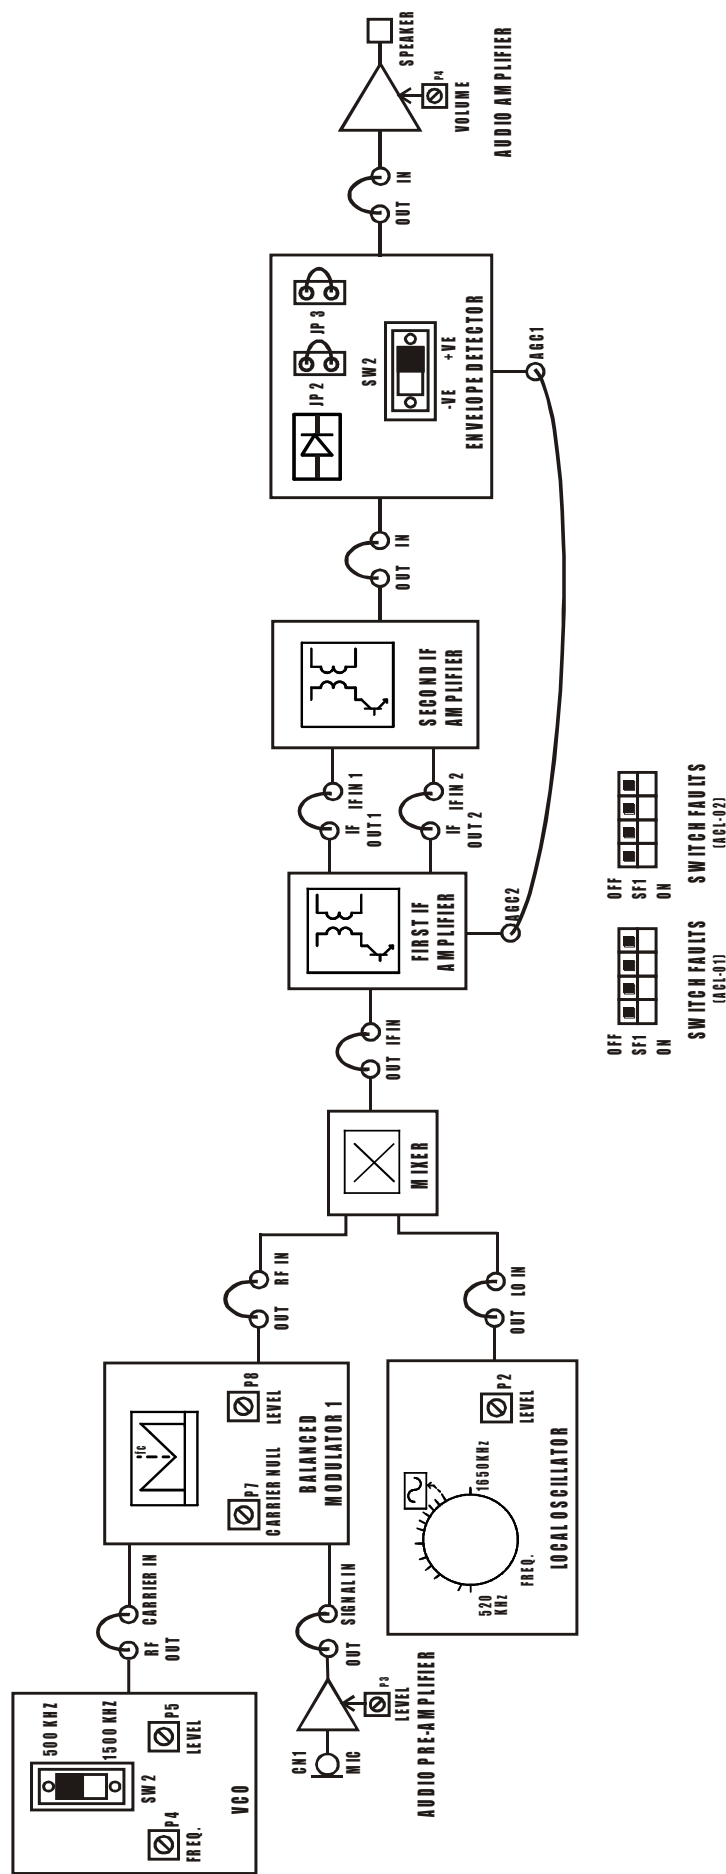

FIG. 9.1 BLOCK DIAGRAM FOR VOICE COMMUNICATION WITH DSB-AM VIA CABLE
1. Refer to the FIG. 9.1 & Carry out the following connections.